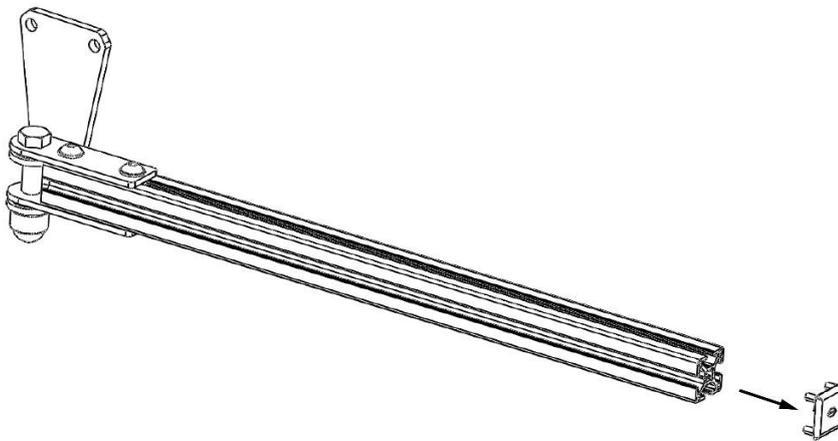

Figure 6
3. Remove the plastic cover from the Add-On arm (Figure 6). Use a plastic tool to protect the aluminum.